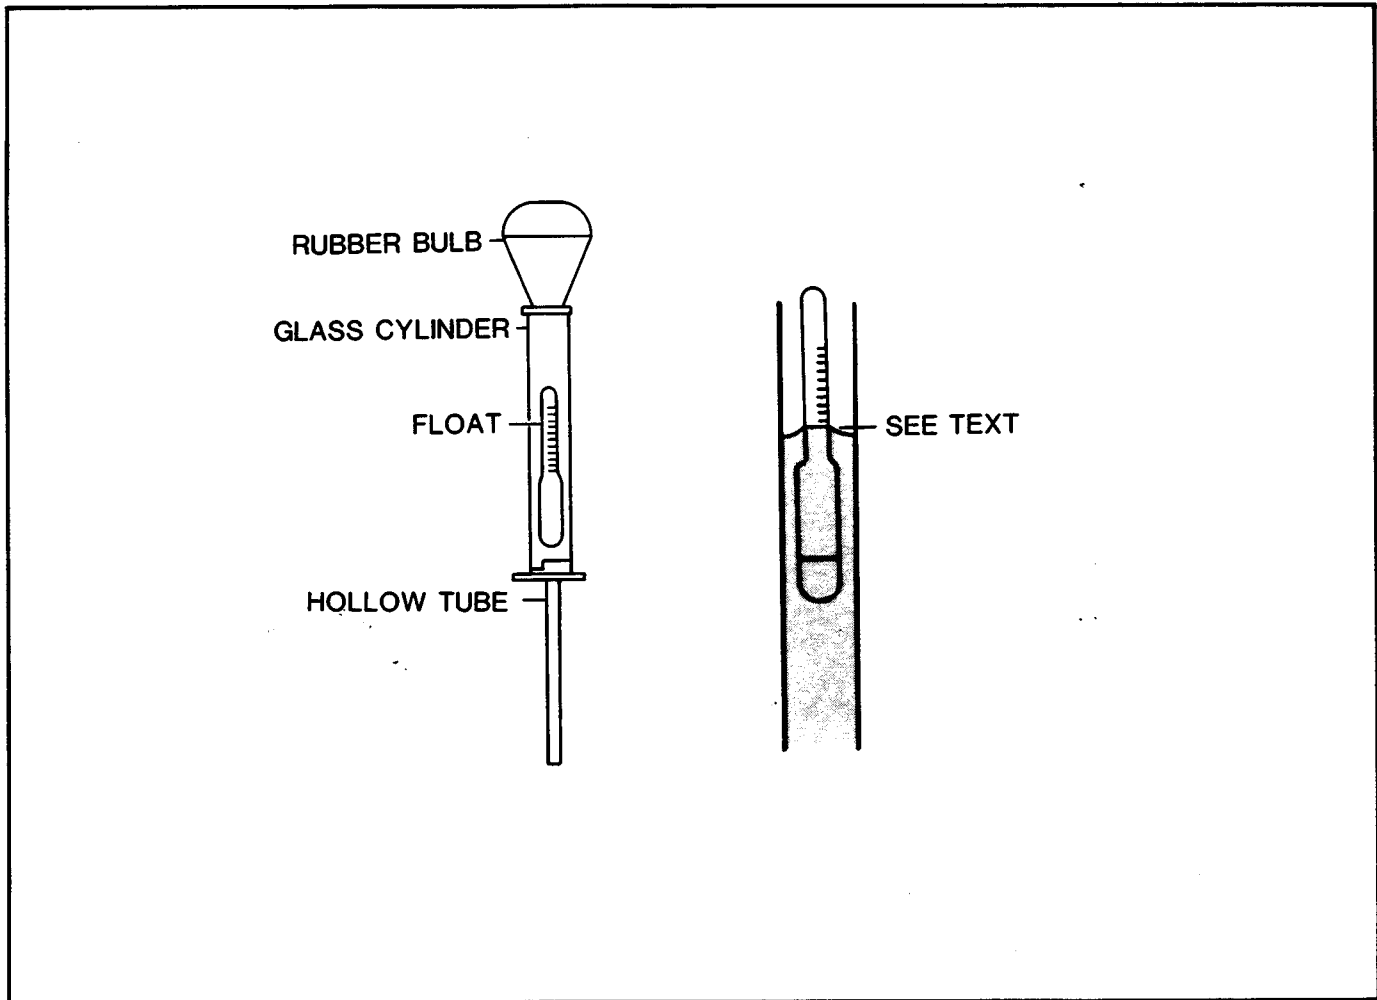

FIG. H-6 USING HYDROMETER
**Instructions For Using Hydrometer: (Fig. H-6)**